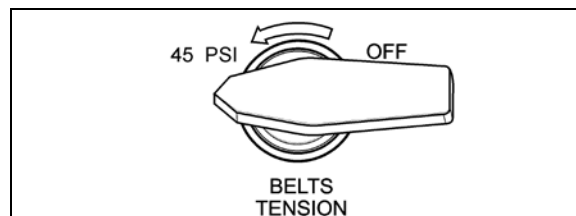

FIGURE 13: BELT TENSIONER VALVE ON REAR CONTROL PANEL (OPTION)
8. Locate the A/C compressor belt tensioner pressure releasing valve (if so equipped). Turn pressure releasing valve handle counterclockwise in order to release pressure in belt-tensioner air bellows and loosen belts (Figure 13). Remove the belts.